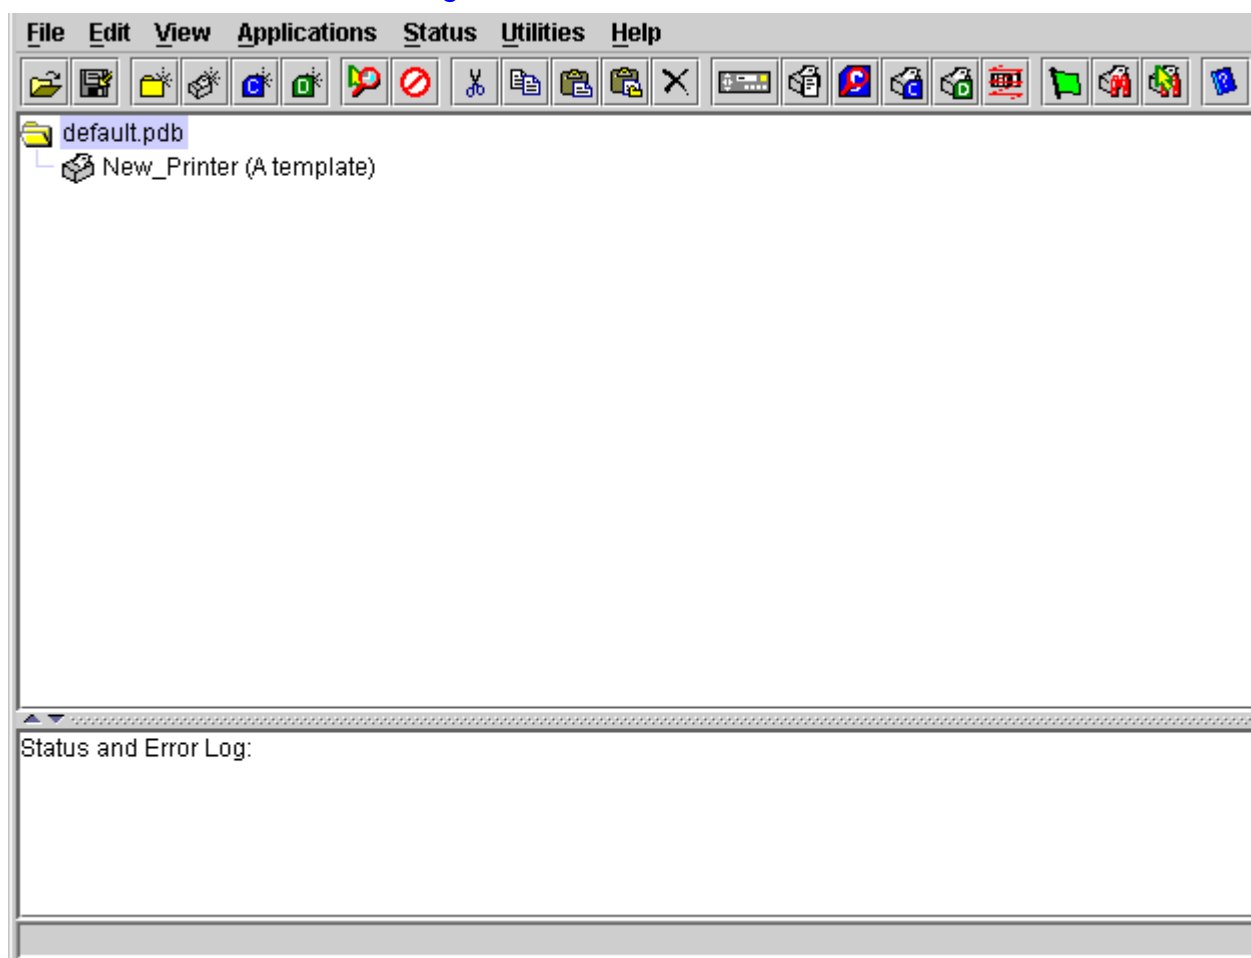

Figure 1. Printer Database Main Window
2. From your operating system, open the printer manager. A brief splash screen appears, then the main screen of the Printer Database, as shown in Figure 1.